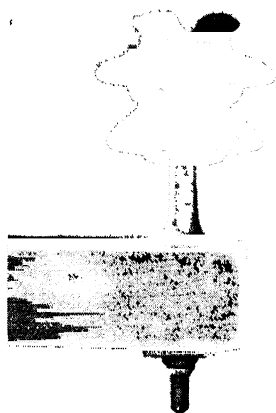

FIG. 4-18. Assembled view of wooden crossarm, steel insulator pin, and mounted porcelain-pin insulator. (Courtesy Locke Dept., General Electric Co.)
**Steel Pins.** Steel pins are in general use today. An allsteel pin is shown in detail in Fig. 4-17. It has a broad base which rests squarely on the crossarm as shown in Fig. 4-18. The pin is usually provided with lead threads which prevent any localized pressure on the insulator.